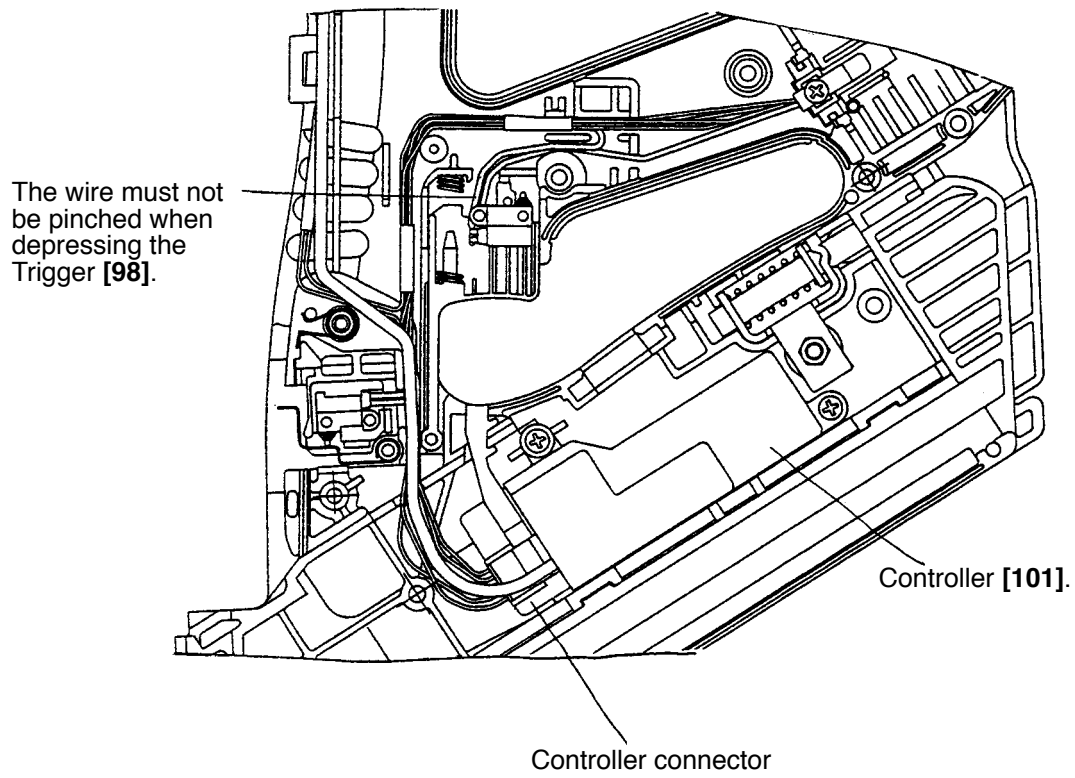

Fig. 16
1. Check for stain of Spark Plug (A) [11]. ⇒ Clean Spark Plug (A) [11].
2. Faulty insulation of the spark plug cable (sparking occurs from the spark plug cable). ⇒ Disconnect the spark plug cable from Spark Plug (A) [11] and check the spark plug cable. If the spark plug cable is abnormal (discharged from the cable due to scratches), replace the Controller [101].
3. Faulty insulation of Spark Plug (A) [11]. ⇒ Replace Spark Plug (A) [11].
4. Check whether the trigger switch wire in the Trigger [98] is pinched or not (Fig. 16).
5. Switch Lever (B) [114] is faulty. ⇒ Replace Switch Lever (B) [114].
7. No sparking occurs even if the switch in the Trigger [98] is directly turned on. ⇒ Replace Internal Wire (A) [86].